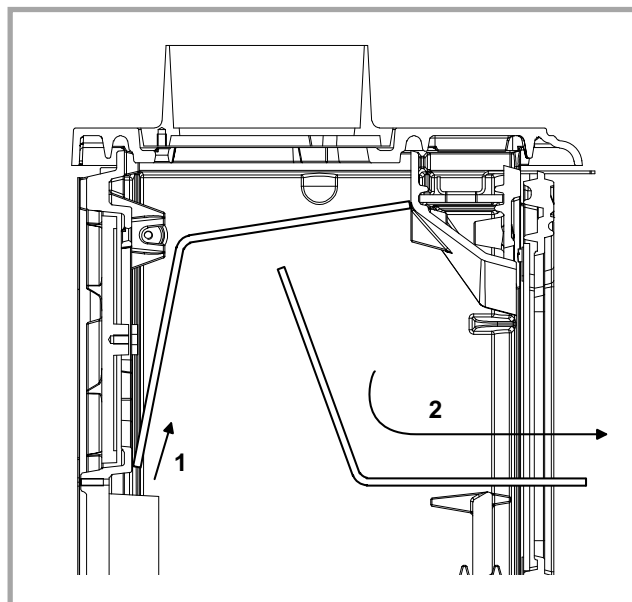

Figure 3 - Removing the flue baffle
- Remove the internal baffle (fig. 3).
- Remove the internal baffle (fig. 3) and the rear heat shield.